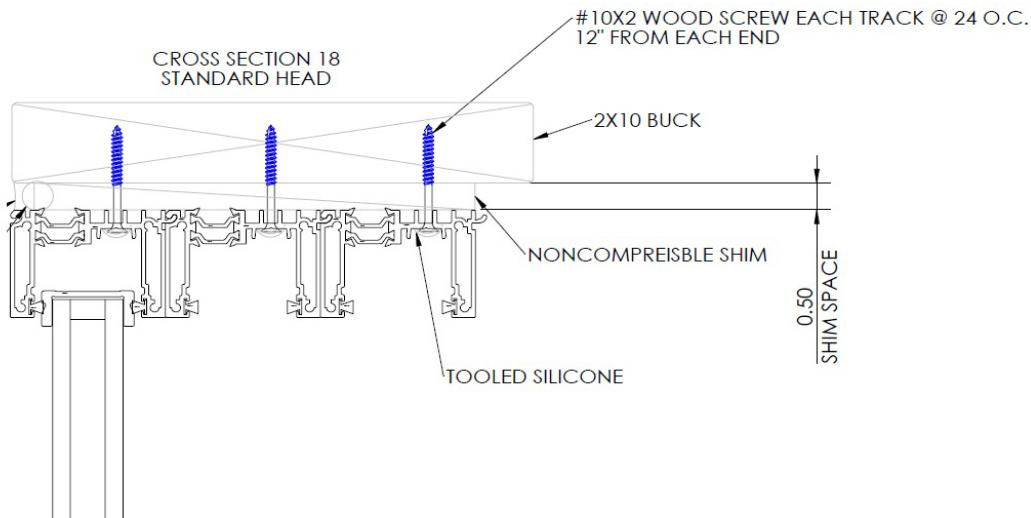

Figure 1
- Frame Head – 12" from each end and every 24" on center, per track. (See Figure 1)